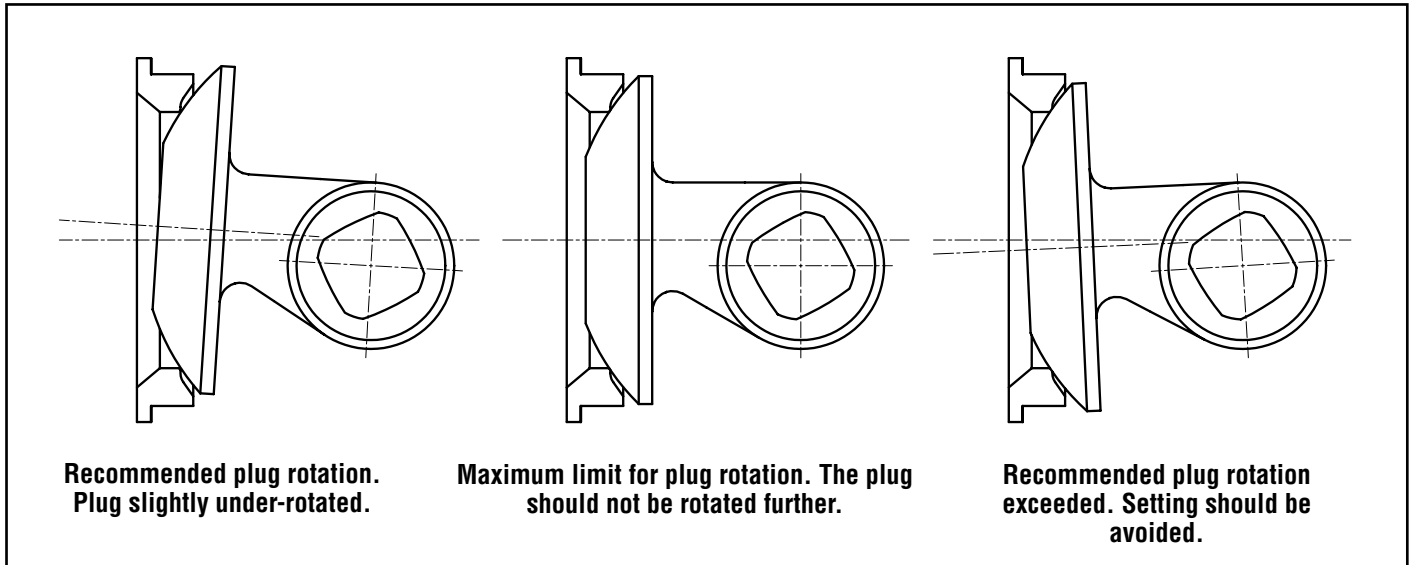

Figure 5: positioning of plug
**NOTE:** For optimum sealing do not over-rotate the plug into the seat. A very slight under-rotation is recommended. (See figure 5)